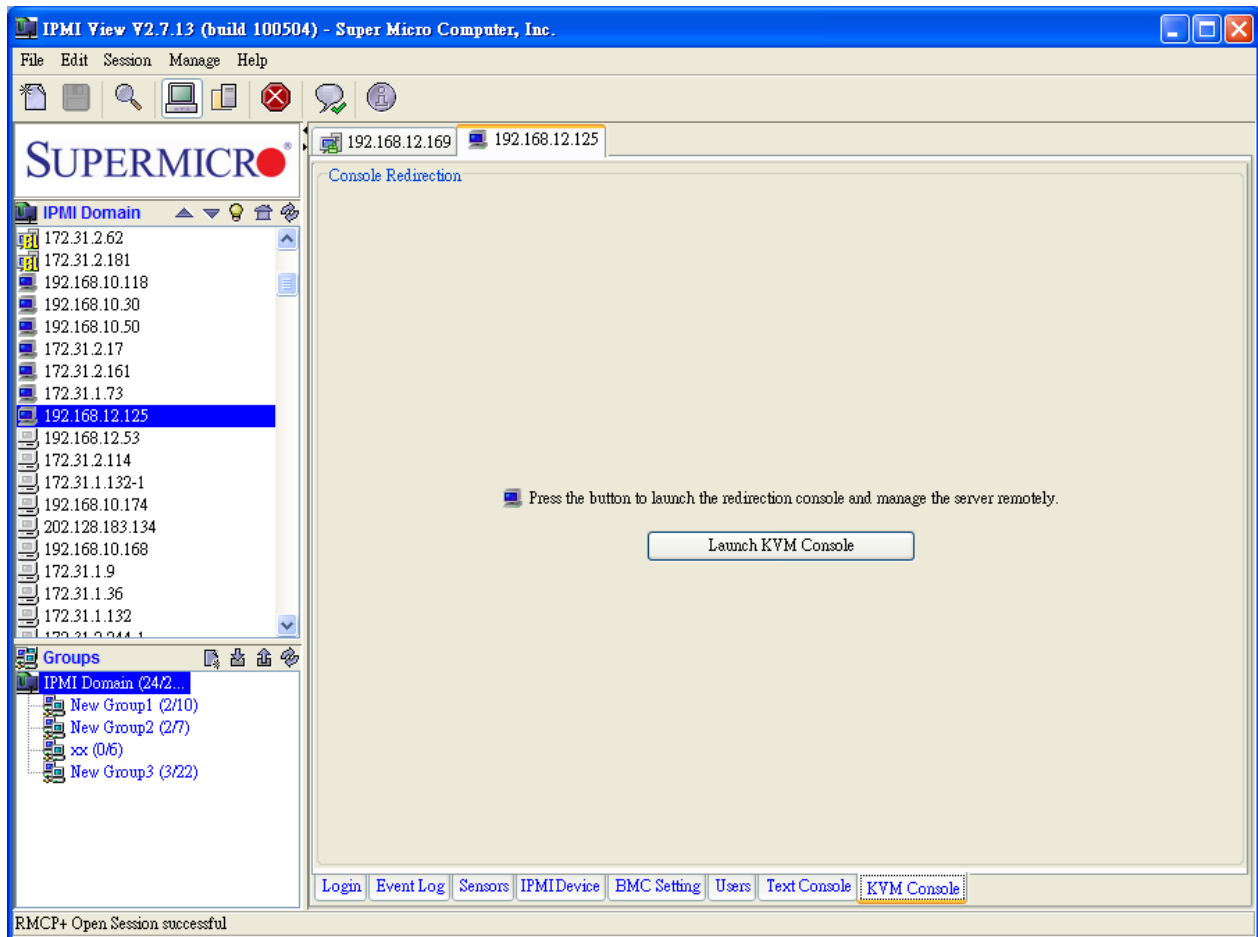

Figure C-1 SIM(WA) iKVM Window
Click **Launch KVM Console** to open SIM(WA) iKVM Window as in Figure C-1.